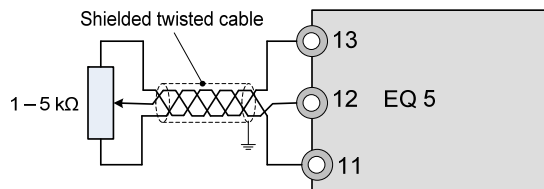

Fig. 2-3-8 Shielding
- (1) Analog input terminals (13,12,V2,C1,and 11)
- a. These terminals receive analog signals that may be affected by external noise. The cables should be as short as possible (66ft /20m or less), be shielded twisted cable, and must be properly grounded. If the cables are affected by externally induced noise, the shielding effect may be improved by connecting the shield to terminal [11]. (see Fig. 2-3-8)